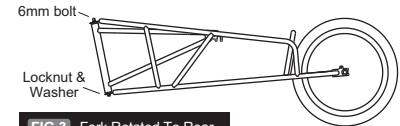
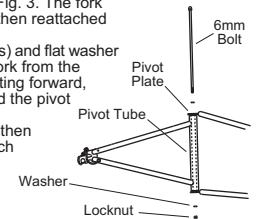

FIG. 3 Fork Rotated To Rear.
FIG. 4 Rotated Fork & Bolt Assembly.
**2. FORK ASSEMBLY:** For shipping purposes, the trailer fork has been attached to the frame pointing to the rear of the trailer, Fig. 3. The fork will need to be removed and rotated 180 degrees, and then reattached prior to use, as shown in Fig. 4.
**A)** Remove the lock nut (Fig. 3, using two 10mm wrenches) and flat washer then fully remove the long 6mm bolt. This will free the fork from the trailer frame. Remove the fork. To reinstall the fork pointing forward, align the holes in the pivot plates of the trailer frame and the pivot tube in the fork as shown in Fig. 4.
**B)** Insert the long 6mm bolt with a washer on each end then tighten the lock nut, Fig. 4. Tighten the lock nut to 60 inch-pounds (70 cm-kgs).